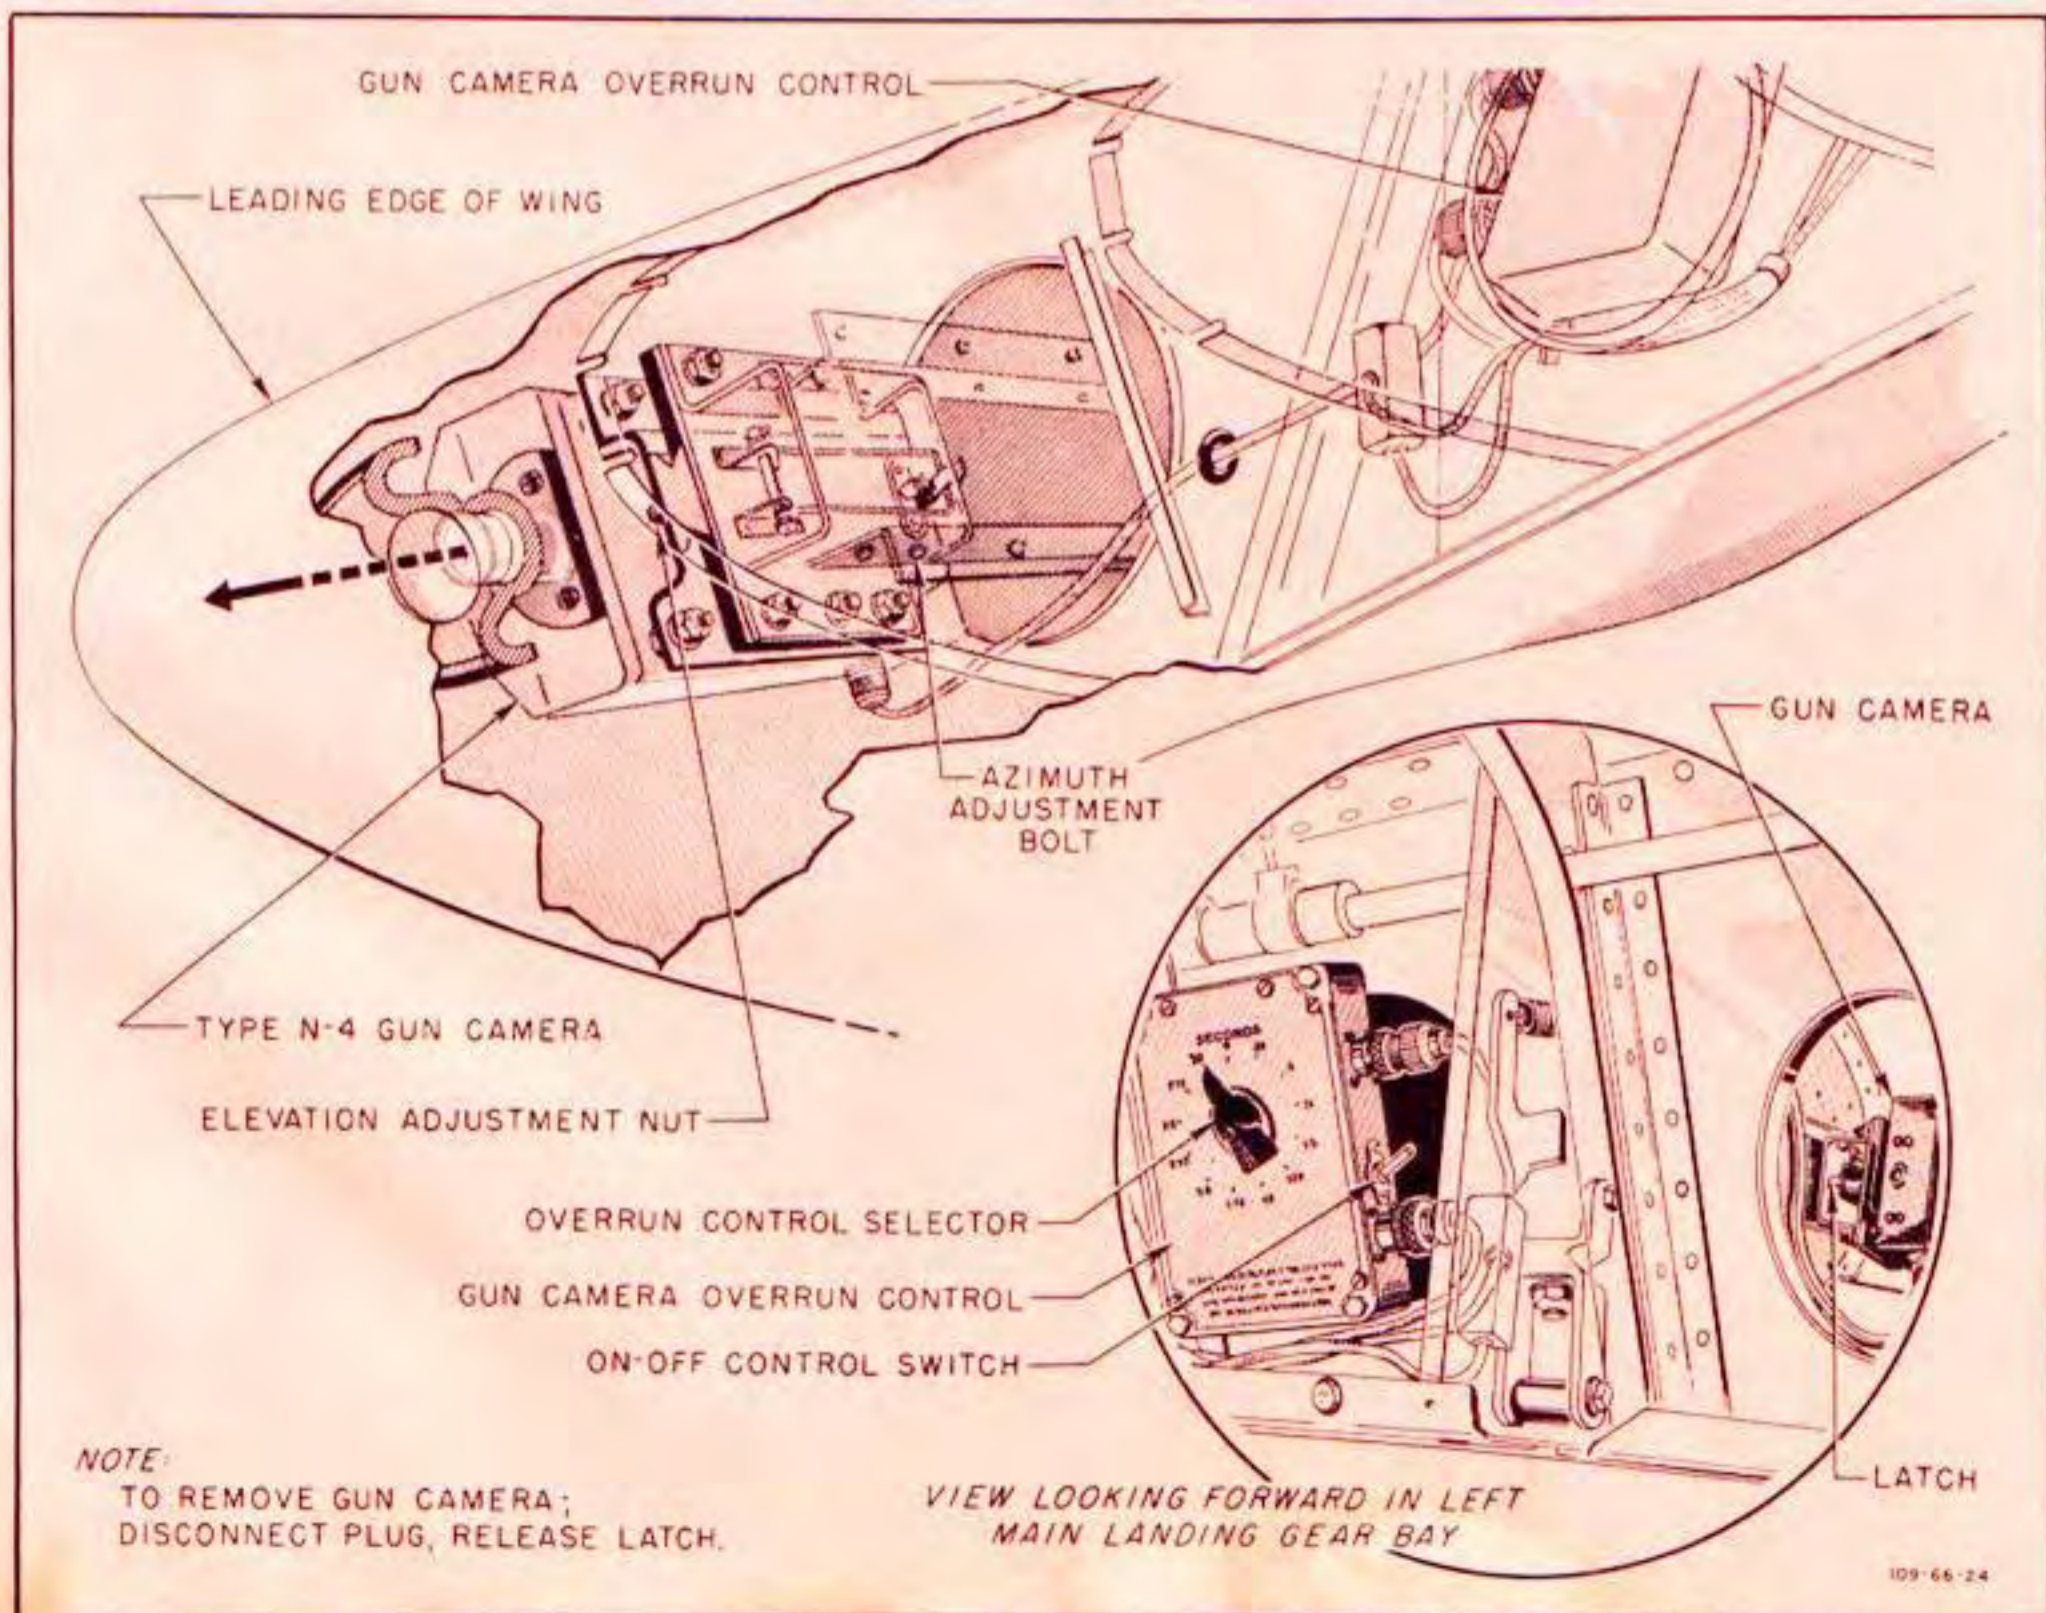

Figure 451—Gun Camera Installation—Early Airplanes
(1) GUN CAMERA.—A 24-volt Type N-4 or N-6 gun camera (figures 449 and 451) is in the left wing on the in-board side of station 29.25 rib. The camera body contains shutter, motor, drive mechanism, a reset film footage indicator, a Type A-6 film magazine, and on the Type N-6 camera, a built-in overrun control. The Type N-4 camera has a separate overrun control. (See figure 451.) The camera can be set for speeds of 16, 32, or 64 frames per second. The plain lens assembly consists of a 35 mm f/3.5 telephoto lens, a sunshade, and a No. 12 minus-blue interchangeable glass filter. The diaphragm stops are marked "BRIGHT," "HAZY," and "DULL."
(2) GUN CAMERA MOUNTS.—Two types of gun camera mounts are used. The NAA type mount (figure 451) is used on early airplanes. The Type C-1 (Huber) mount (figure 449), with additional servicing access provisions, is used on later airplanes.